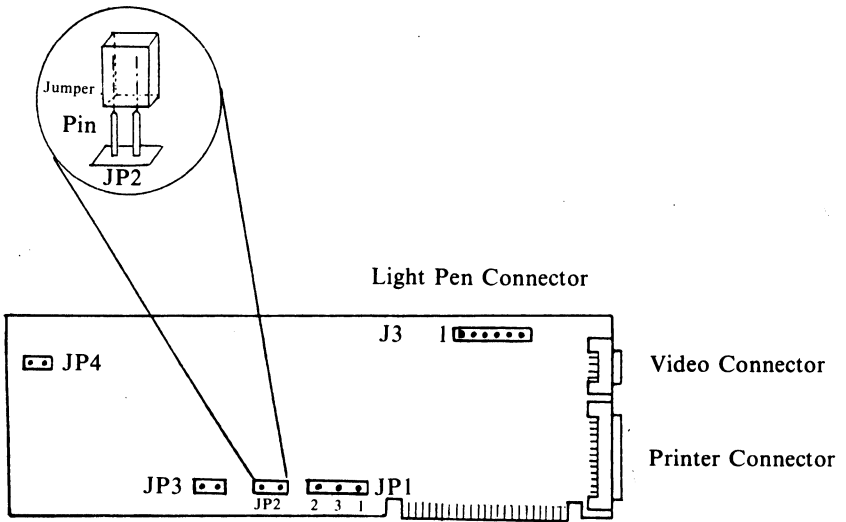

Figure 3.3 Spectrum Board Jumpers and Connectors
- 5) Install lightpen, according to the manufacturer's instructions, if any. For lightpen connector location, see Figure 3.3.
- 10) Connect your monochrome monitor cable to the SPECTRUM Card video connector if the SPECTRUM is installed as either the "only video card" or the "monochrome adapter". Otherwise, connect your color monitor cable to the SPECTRUM Card video connector. See Fig. 3.3 for the video connector location.
- 11) Connect your printer cable (if any) to the SPECTRUM Card printer connector. See Fig. 3.3 for the printer connector location.